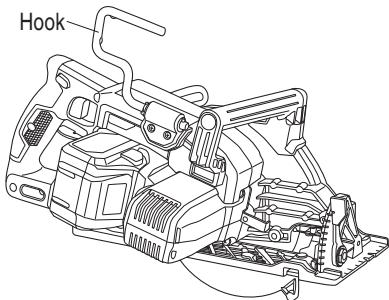

Fig. 19
- (1) Turn the hook away from the saw body to hang the saw from a rafter, joist or other elevated support. (Fig. 19)